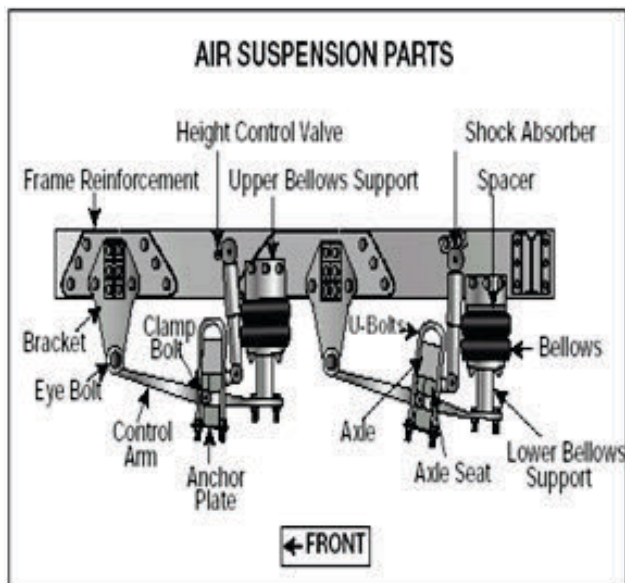

Figure 2.4
- ✓ Air suspension systems that are damaged and/or leaking. See Figure 2.4.